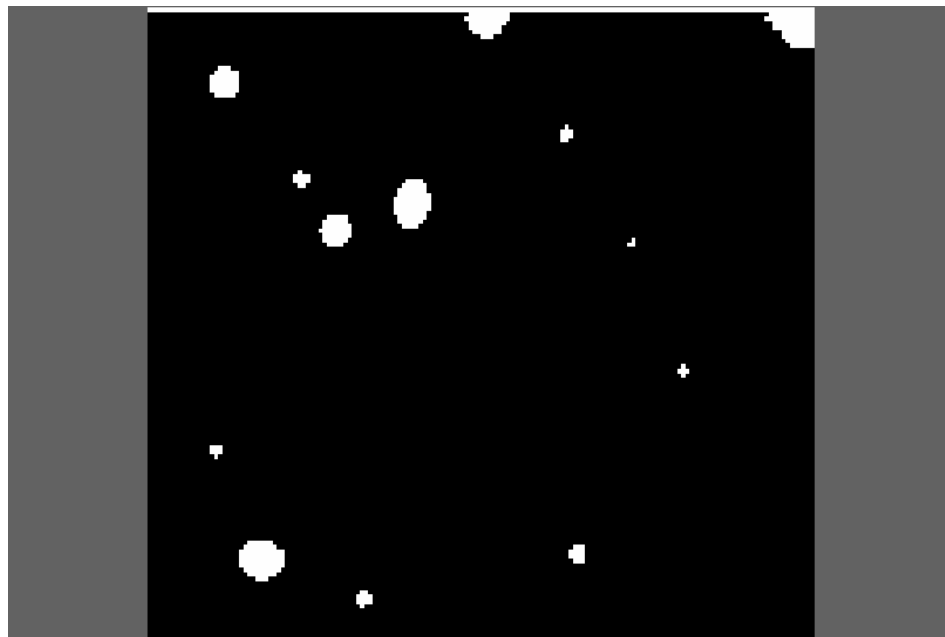

Figure 3:
7. The **Threshold** operation is an effective tool for isolating bright objects on a dark background, as well as removing background noise as shown below in Figure 3. The Threshold filter did not remove the bright strip across the top of the image, however. Another filter will be necessary to accomplish this operation.